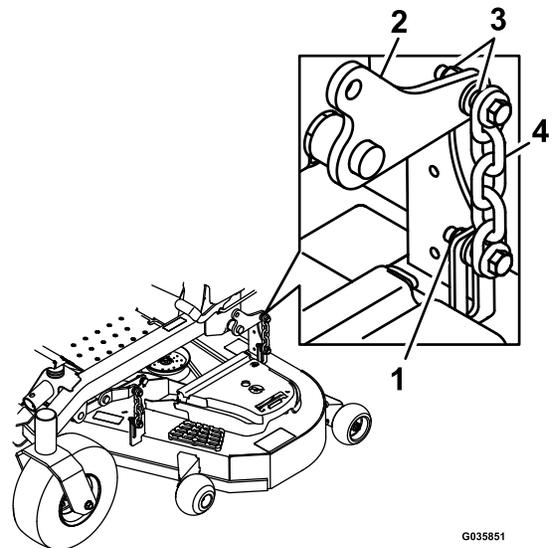

Figure 98
14. Loosen the locknuts (Figure 98) on all 4 corners and ensure that the mower deck is sitting securely on all 4 blocks.